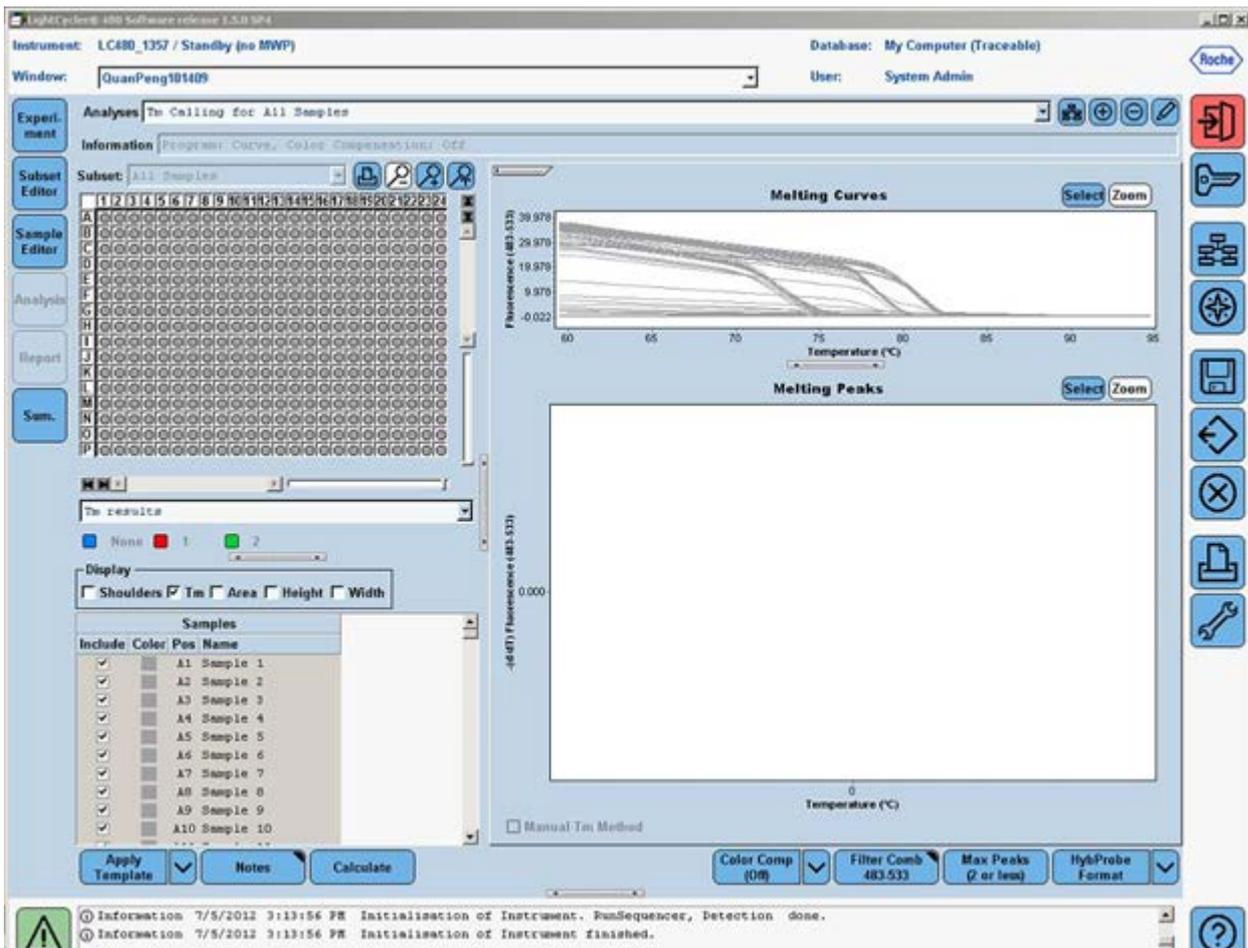

Figure 13. Generating melt-curve analysis.
7. The Analysis window with the raw melt curves will appear (Figure 13). To proceed, click the down arrow button (▼) on the lower right corner of the screen to set the analysis to "SYBR Green I Format". Next click the "Calculate" button. The calculation may take several minutes. Once the melting peaks and T_m values appear, check the specificity of each assay by ensuring the presence of a single melt peak in each well. Then click the (📄) button on the right panel to save the melt curve analysis as part of the run file.